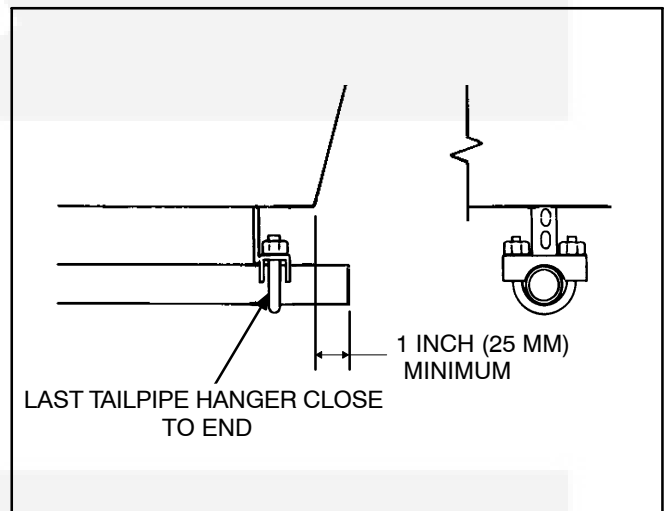

FIGURE 2-5. EXHAUST TAILPIPE TERMINATION
5. Do not terminate the tailpipe underneath the vehicle. Extend it a minimum of 1 inch (25 mm) beyond the perimeter of the vehicle (Figure 2-5). Support the end of the tailpipe such that it cannot be pushed inward and up under the skirt of the vehicle by backing up into a curb or other obstacle.